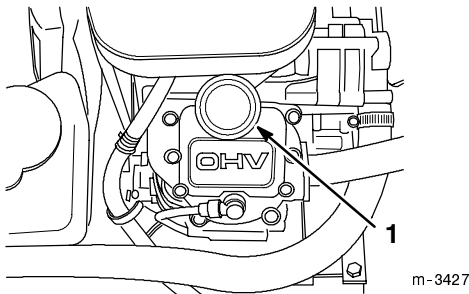

Figure 31
9. Remove the oil filler cap (Fig. 31).
10. Slowly pour approximately 80% of the specified amount of oil into the filler tube (Fig. 31).
12. Slowly add additional oil to bring the oil level to the full (H) mark on the dipstick.